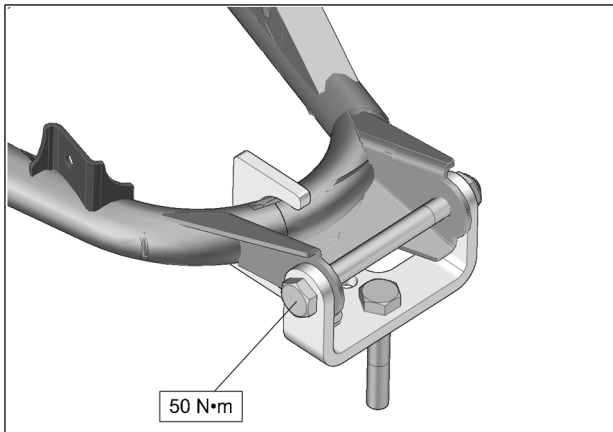

Fig. 10
9. Tighten assembly to 50 N•m [37lb•ft] of torque. See Fig. 10